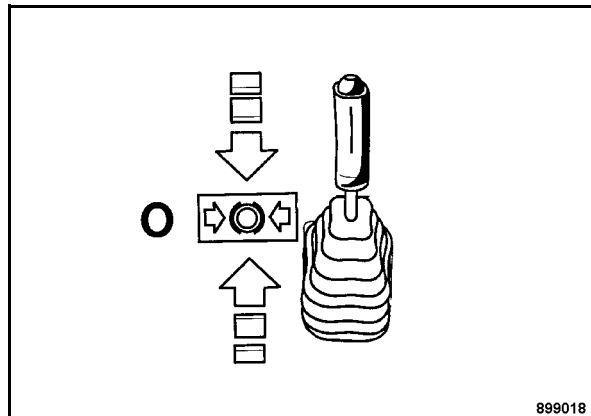

Fig. 45
- Move the travel lever (Fig. 45) to position '0'. The machine is automatically braked by the hydrostatic drive.